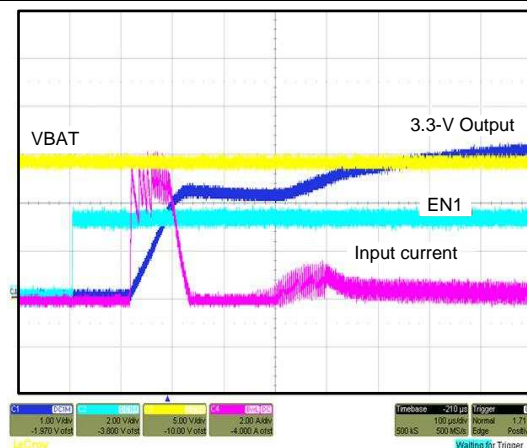

Figure 16. Partially Discharged SS Capacitor Causes Nonmonotonic Ramp and High Input Currents
- A nonmonotonous ramp (see Figure 16)
- High inrush-current (up to 6 A, see Figure 16)